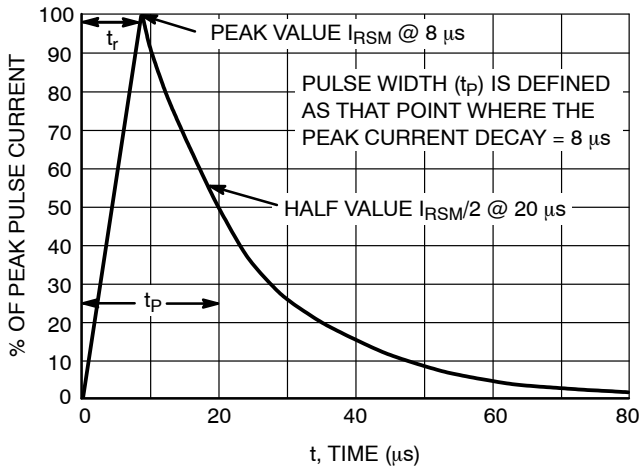

Figure 3. 8 \times 20 μs Pulse Waveform
1. Non-repetitive current pulse per Figure 3
4. $8 \times 20 \mu\text{s}$ pulse waveform per Figure 3